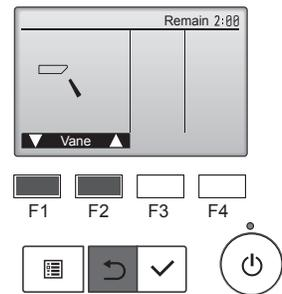

Fig. 6-6
- ① Check the auto vane with the buttons. (Fig. 6-6)
- ② Press the button to return to "Test run operation".
- ③ Press the button.